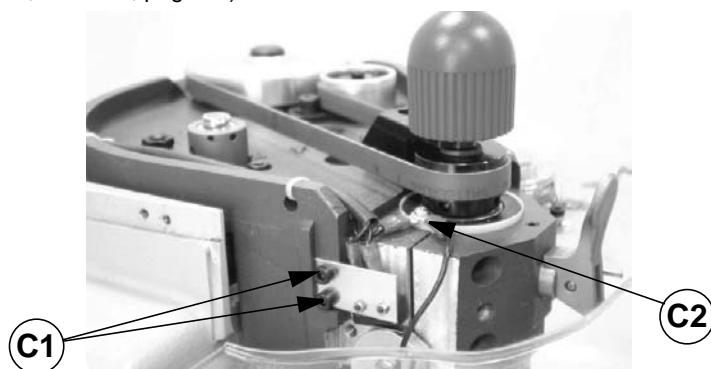

Fig. 55
- 1) loosen the two screws (P) and remove the microswitch plate (fig. 55).
- 4) secure the plate with the two screws (P).